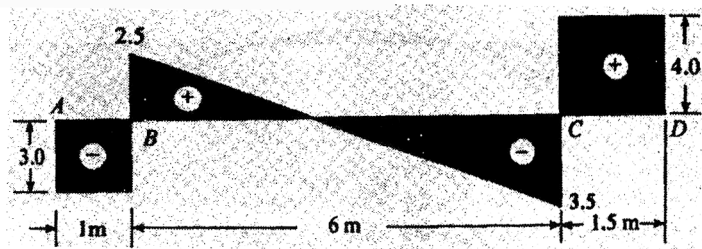

Fig. 3
- (b) Shear force diagram for a loaded beam is shown in Fig. 3. Determine loading on the beam hence draw bending moment diagram. Locate point of contraflexure if any. All values are in kN. [6]